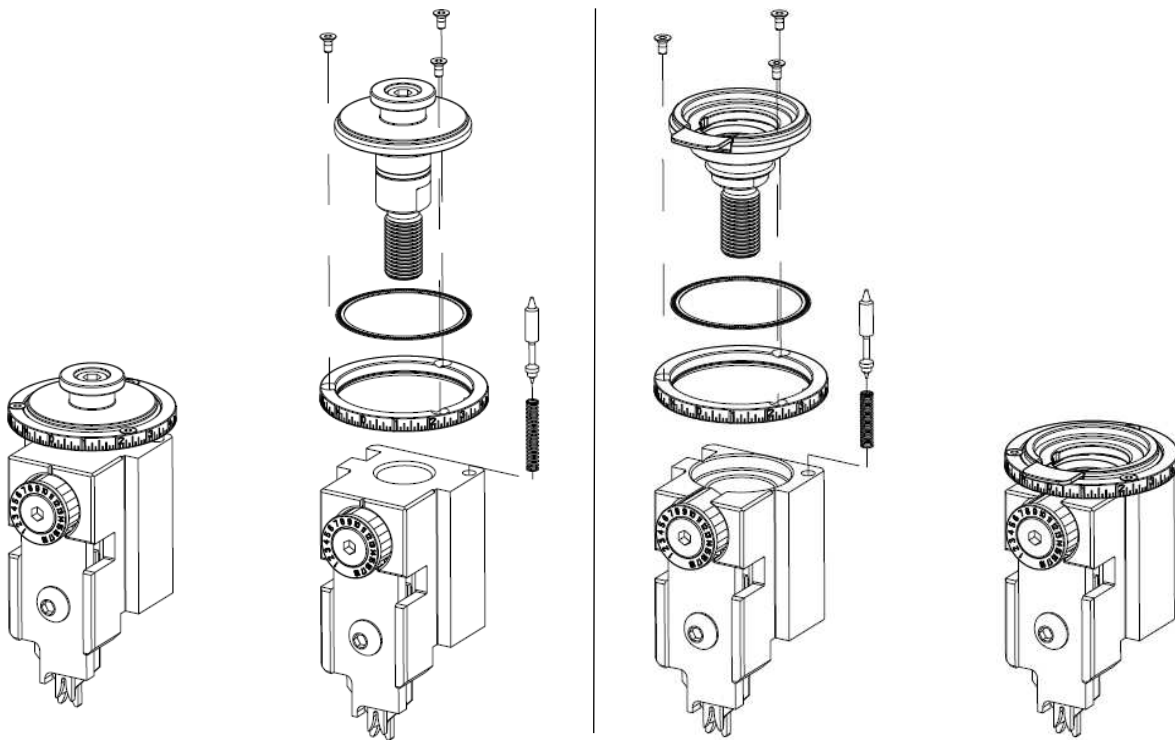

Figure 23
6.7. Adjustable Crimp Height Repair [Reference Figure 23]
- Simplified Figure 24 (previous Figure 23)